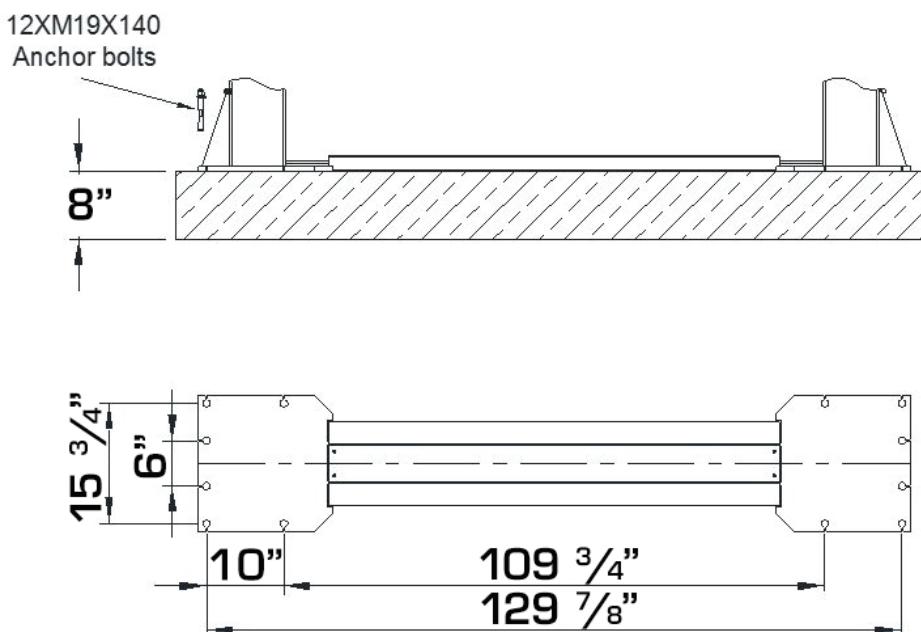

Figure 8 – Floor Plan
- Now locate the lift according to the floor plan the figure 8, use a carpenter's chalk line to layout a grid for the column locations.